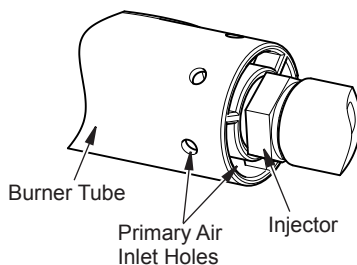

Figure 30 - Burner and Injector Holder
2. Inspect burner, pilot and primary air inlet holes on injector for dust and dirt (see Figure 30).